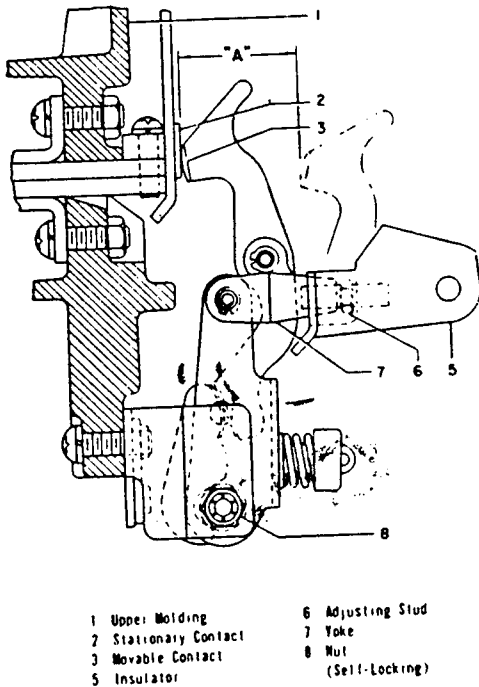

Fig. 6 — Contact Adjustment for Type K-225 Circuit Breakers
#### **Type K-225 Circuit Breakers (Refer to Fig. 6)**
If for any reason the breaker is disassembled and the contact structure Figures 6 and 7 is replaced or disassembled, the torque of the nut ((8) Figures 6 and 7) should be checked. This should be adjusted to be between 15 and 25 foot pounds. This will provide sufficient side pressure on the hinge joint so the joint will be capable of adequately carrying its current rating.
3. Following the slow close procedure, slowly close the circuit breaker until the first contacts (2 and 3) just touch. The other two poles should be within .032 inch of touching. If not within .032 inch, then adjust stud (6) of these two poles in the direction to increase pressure until all three poles touch within .032 inch.
If for any reason the breaker is disassembled and the contact structure Figures 6 and 7 is replaced or disassembled the torque of the nut ((8) Figures 6 and 7)) should be checked. This should be adjusted to be between 15 and 25 pounds. This will provide sufficient side pressure on the hinge joint so the joint will be capable of adequately carrying its current rating.